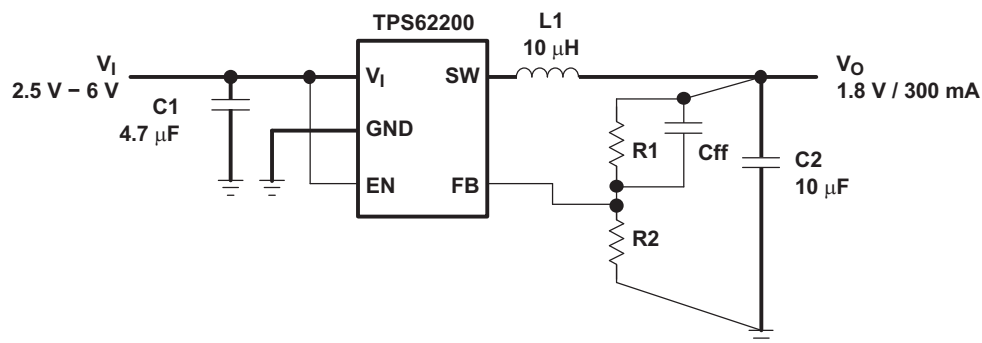

Figure 19. Layout Diagram
- Therefore use wide and short traces for the main current paths, as indicated in bold in Figure 19. The input capacitor should be placed as close as possible to the IC pins.